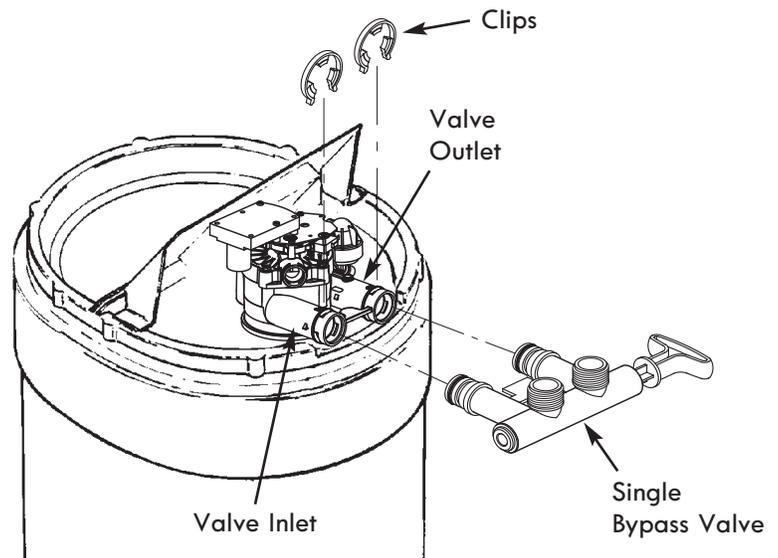
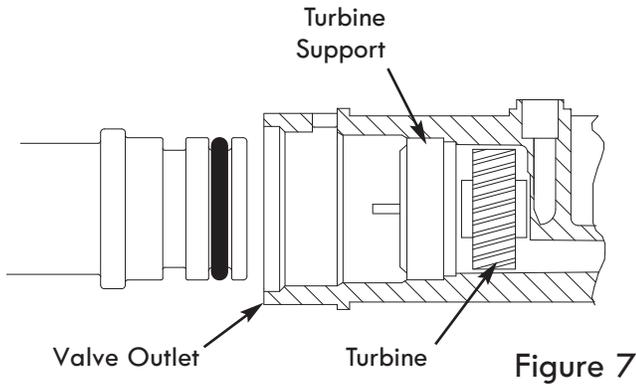
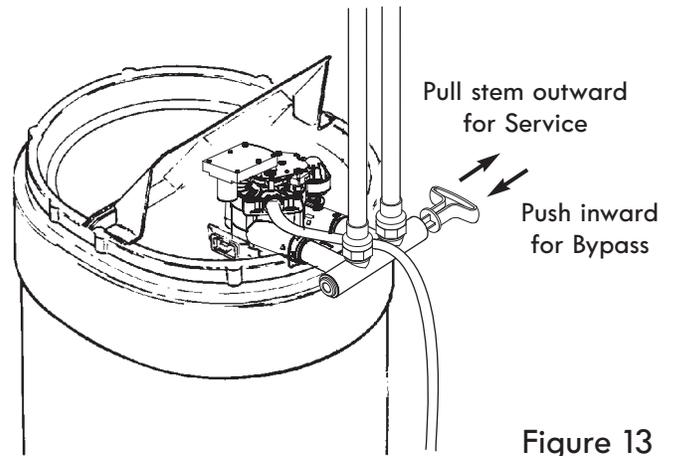
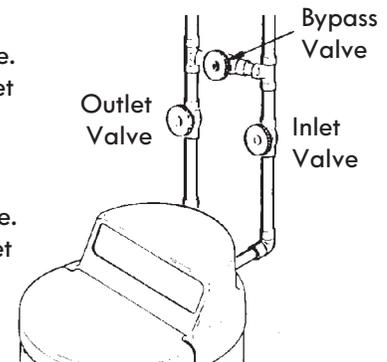

Figure 6
Figure 7
Figure 13
Figure 14
5. Visually check and remove any foreign materials from the valve inlet and outlet ports (see Fig. 6). Carefully remove the two large plastic clips (you will use them). Check to be sure the turbine and support are firmly in place (see Fig. 7).
NOTE: Always install either a single bypass valve (provided), as shown in Figure 6, or, if desired, parts for a 3 valve bypass system (not included) can be purchased and assembled, as shown in Figure 14.
If you installed a 3-valve bypass system (Fig. 14), electrical continuity will be maintained. If you installed the non-metallic bypass valve (Fig. 13), restore the ground as follows:
3. Place bypass valve(s) in "bypass" position (see Figures 13 & 14). On a single valve, slide the stem inward to bypass. On a 3-valve bypass, close the inlet and outlet valves and open the bypass valve.